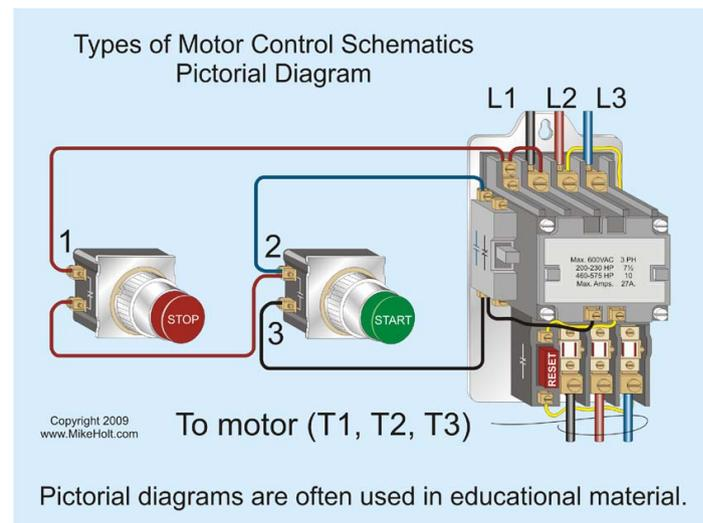

Figure 1-8
### (3) Pictorial Diagrams (Figure 1-8)